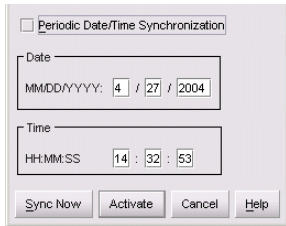

Figure 43 Configure Date and Time dialog box (manual options)
1. At the Configure Date and Time dialog box, click the **Periodic Date/Time Synchronization** check box to deselect the option (no check mark in the box). The grayed-out **Date** and **Time** boxes activate, as shown in Figure 43.